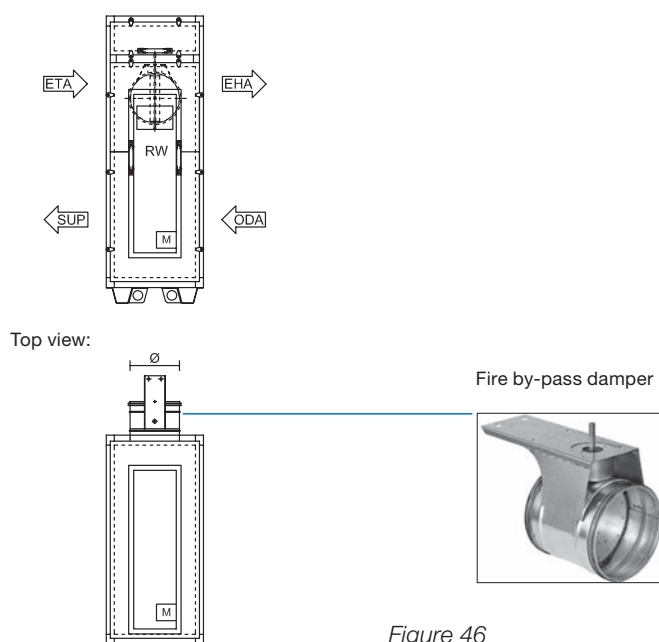

Figure 46
- The fire by-pass is located on the exhaust airflow side (EHA), on the back of the rotary wheel heat exchanger (Figure 46).